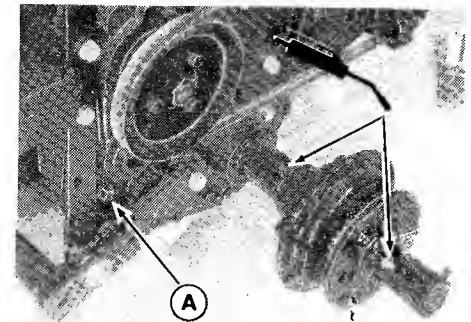

Figure 6. Grease Fittings
- d. Two fittings on the right hand rear axle (figure 6).